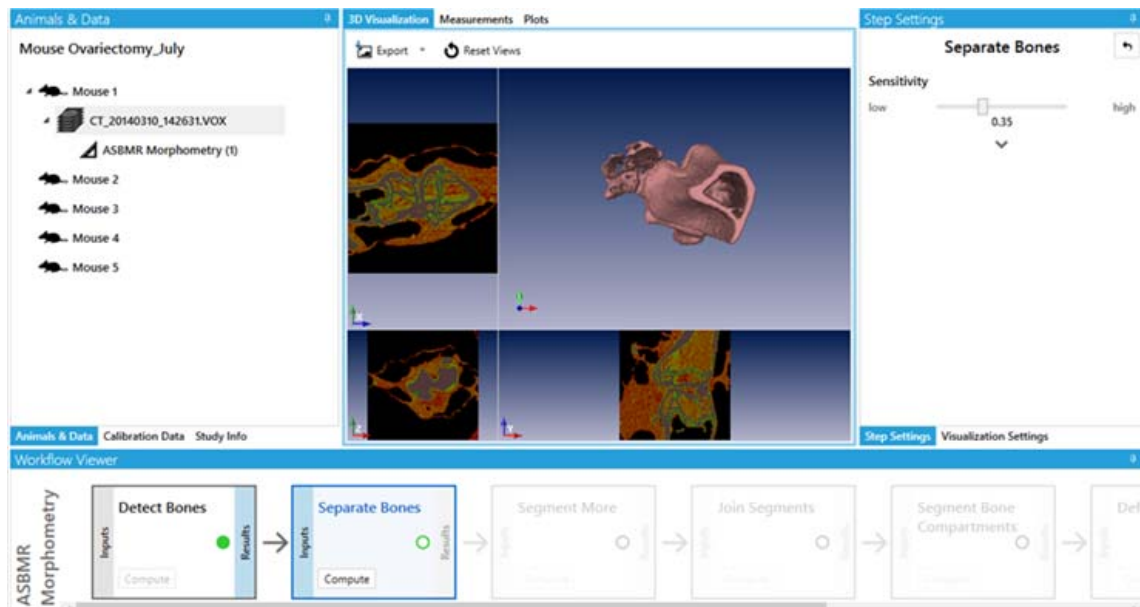

Figure 38. Detect Bones Results
- 3 Click the **Compute** button in the Detect Bones step box on the Workflow Viewer Tab. The results of the Detect Bones step display on the display on the AccuCT Main Window. See Figure 38.